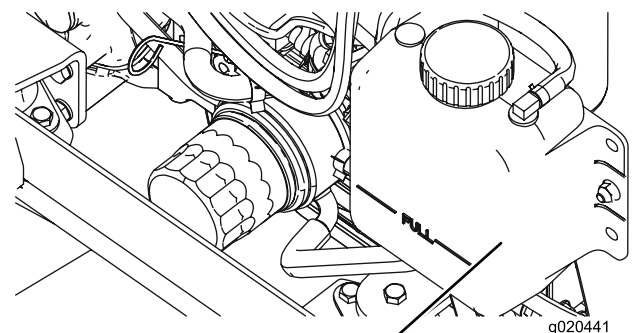

Figure 79
1. Carefully remove the radiator cap and expansion-tank cap (Figure 79).